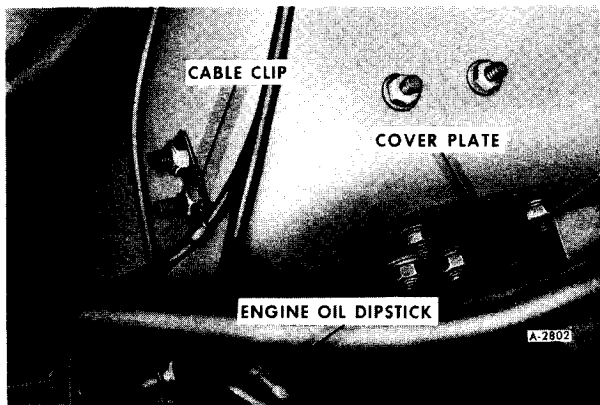
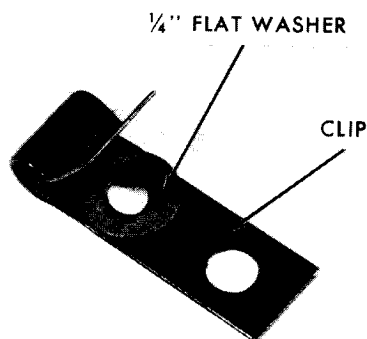

Figure 9
Figure 11
5. Remove accelerator lever boot and install cover plate coated with sealer part number 718253, as shown in figure 9.
16. Install clip on accelerator cable at side of toe pan using two bolts as shown in figure 9 and torque as shown in the layout. Insert washer in clip as shown in figure 11.
30. Position cable and clip on step riser as shown on layout using existing bolt. Drill $\frac{1}{4}$ " diameter hole $\frac{5}{8}$ " deep and install washer in clip and screw as shown in figures 11 and 13.